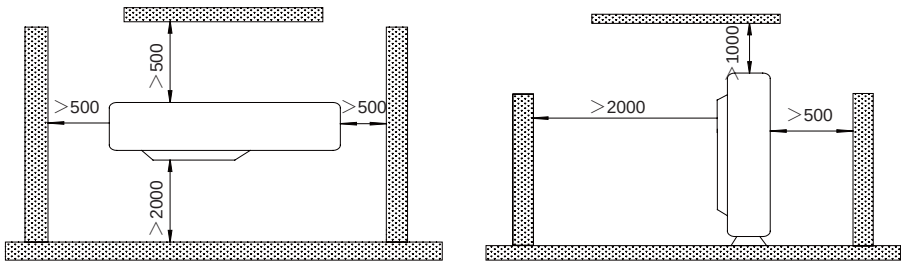

Fig.3
① . Install the unit where it will not be tilted by more than 5°.
② . During installation, if the outdoor unit has to be exposed to strong wind, it must be fixed securely.
- (1). If possible, do not install the unit where it will be exposed to direct sunlight. (If necessary, install a blind that does not interfere with the air flow.)
- (2). Install the outdoor unit in a place where it will be free from getting dirty or getting wet by rain as much as possible.
- (3). Install the outdoor unit where it is convenient to connect the indoor unit.
- (4). Install the outdoor unit where the condensate water can be drained out freely during heating operation. Do not place animals and plants in the path of the warm air.
- (5). Take the air conditioner weight into account and select a place where noise and vibration are small.
- (6). Install the outdoor unit where is capable of withstanding the weight of the unit and generates as less noise and vibration as possible.
- (7). Provide the space shown in Fig.3, so that the air flow is not blocked. Also for efficient operation, leave three of four directions of peripheral constructions open.